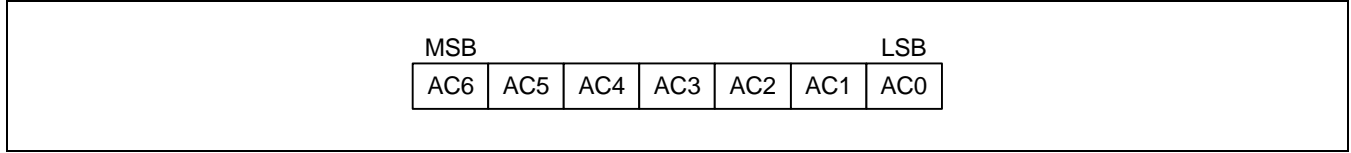

Figure 1. DDRAM Address
DDRAM stores display data of maximum 96 x 8 bits (96 characters). DDRAM address is set in the address counter (AC) as a hexadecimal number. (refer to Figure 1)